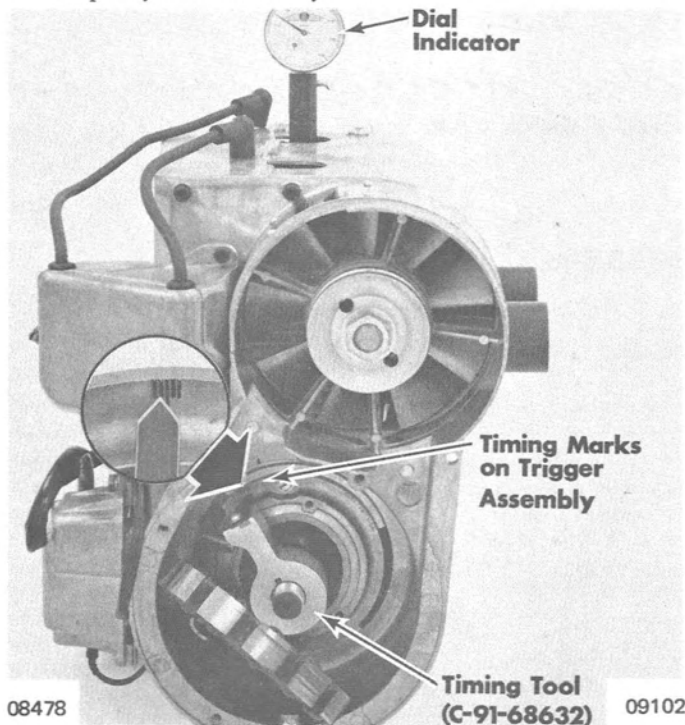

Figure 3. Timing Adjustment
6. Install Dial Indicator (C-91-58222A1) in No. 1 (PTO side) cylinder spark plug hole. (Figure 3)
8. Align Timing Tool (C-91-68632) with crankshaft key and install tool on crankshaft taper as far as possible. (Figure 3)
10. Without moving crankshaft from position outlined in Paragraph 9, preceding, pointer on timing tool must align with SECOND timing mark (from left) on trigger assembly. (Figure 3) If timing tool is not aligned with correct timing mark, adjust trigger assembly as follows:
- b. Rotate trigger assembly until pointer on timing tool is aligned with SECOND timing mark (from left) on trigger assembly. (Figure 3)